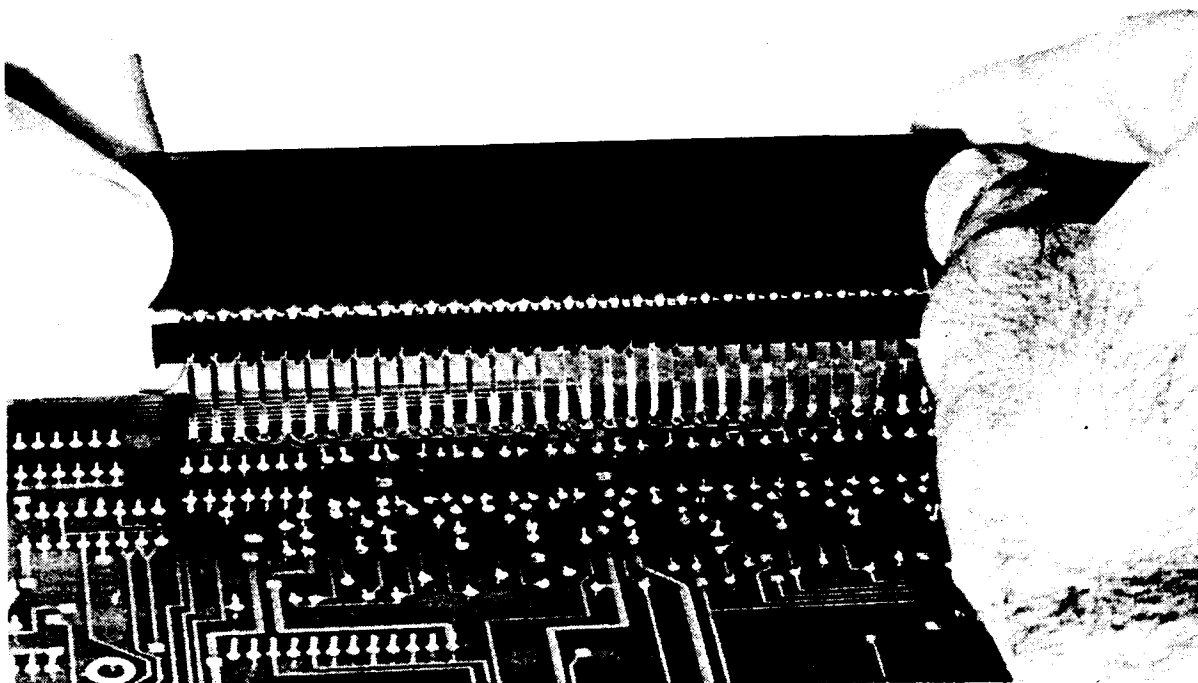

Figure 2-8. Display Filter
2. Clean the tape head with a cotton swab that has been dampened with head cleaning solution (see Figure 2-8). Wipe the top of the tape head a few times with the cotton swab. Remove any other dust that has accumulated in the vicinity of the tape head.
- Place the filter over the display tube (out of the instrument), and note the darkness of the display character traces. (See Figure 2-8).